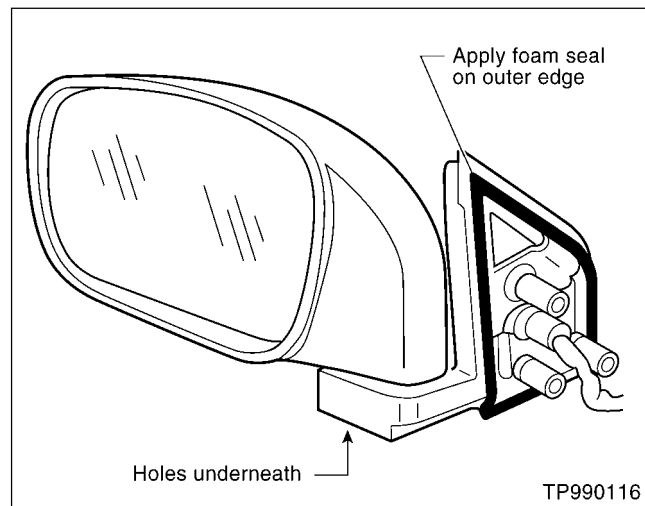

Figure 12. Side Mirror
2. Cut a piece of foam seal (3M Scotchfoam P/N 051131-06375 Tape No. 4508 or equivalent ) 7 mm wide (approximately one-quarter inch wide). Attach this strip all the way around the edges of the mirror (see Figure 12).
2. Tape across the two holes on the bottom of the mirror (see Figure 12).